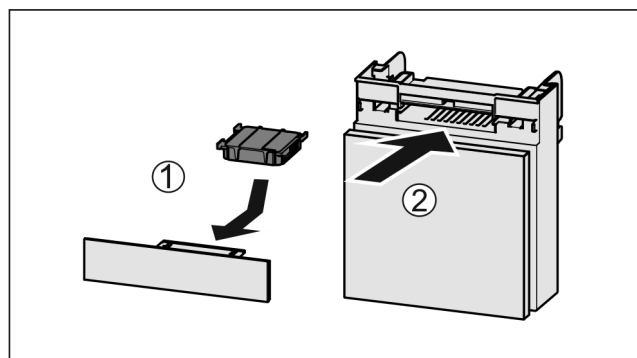

Fig. 132
- ▶ Insert the carbon filter as shown in the diagram Fig. 132 (1).
- ▶ Push the compartment in Fig. 132 (2).